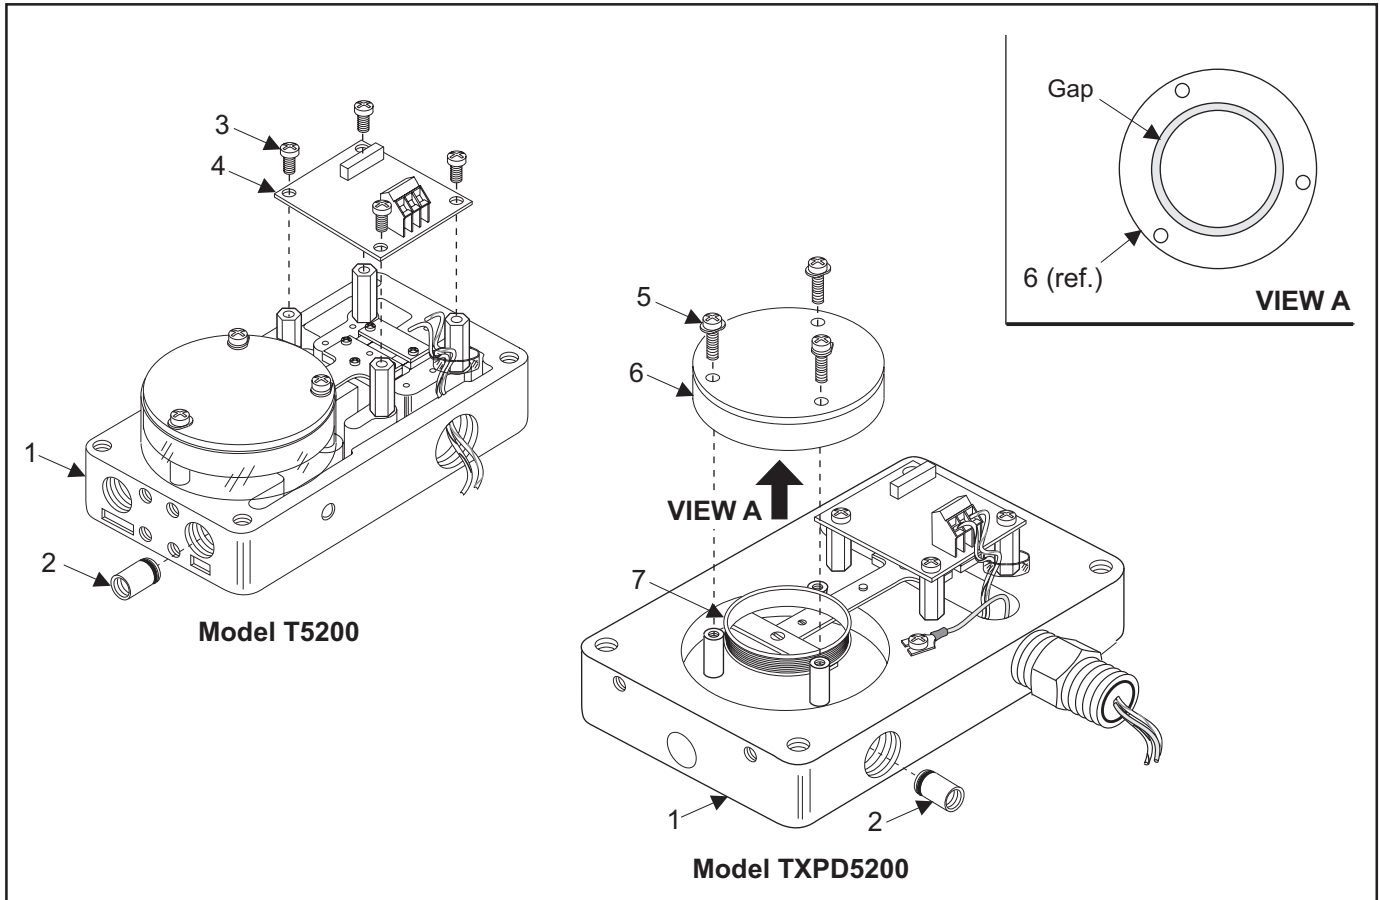

Figure 9. Exploded Drawing.
2. Remove the Orifice Assembly (2) from the unit by threading a 1/4-20" Screw into the orifice housing and pulling it out through the inlet port. For more information, see Figure 9. "Exploded Drawing" below.
1. Disconnect wires from Terminal Block on PC Board (4).
2. Unsolder Red (+) and Black (-) Leads on PC Board (4).
3. Remove four Screws (3) holding PC Board (4) to Transducer (1). For more information, see Figure 9. "Exploded Drawing" below.
4. Replace PC Board (4) with the appropriate PC Board from Table 3. on page 9.
2. Remove three Screws (5) holding Magnet (6) to Transducer (1).
3. Remove Magnet (6) and clean gap of any foreign material with masking tape. For more information, see Figure 9. "T5200 Exploded Drawing" below.
4. Place Magnet (6) over Coil (7) and tighten with three Screws (5).
5. Using a non-metallic rod, raise up on the arm to make sure Coil (7) is free to move in Magnet (6).